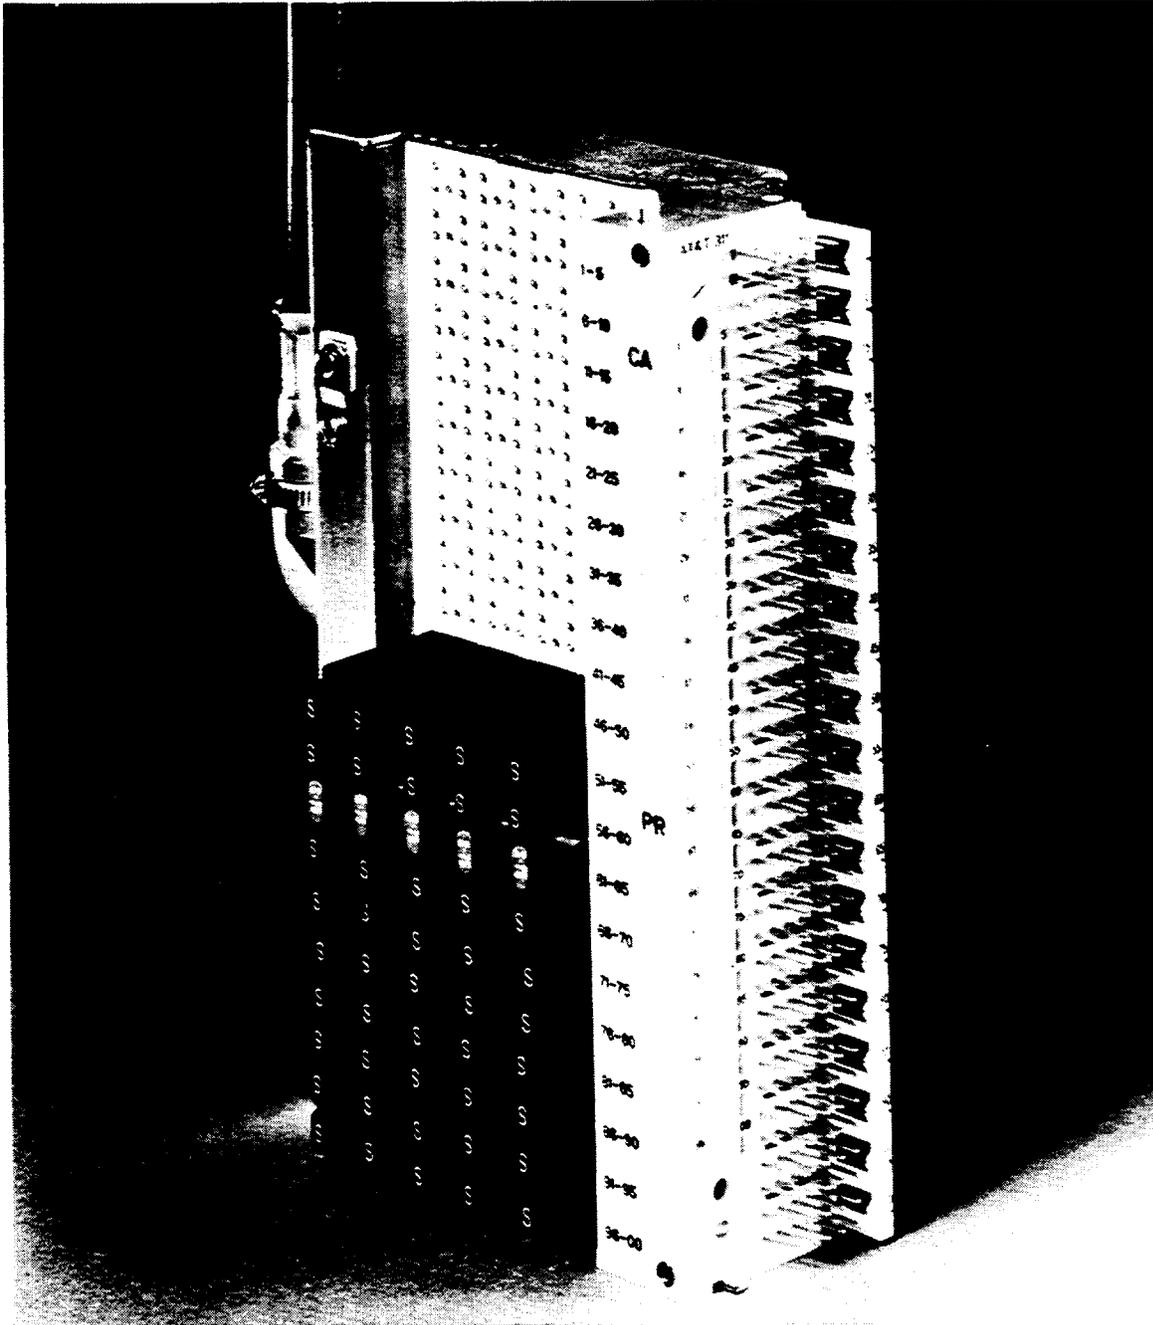

Figure 26. Front View 311L UL Listed Connector
**7.02** The 311L-type connectors conform with all the characteristics of the 311-type connectors as specified in paragraphs 2.01 through 2.11 of this practice. Although most outward appearances are identical (Figure 26), there are several physical characteristics which are unique to these products.